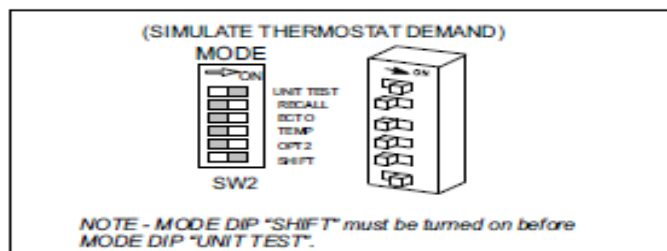

Figure 54. Mode Dip Switch Setting
2. Move the MODE DIP "UNIT TEST" to "ON" (see figure 54). For a few seconds only a decimal point will be displayed. Then a "c01" will be displayed simulating a thermostat input.